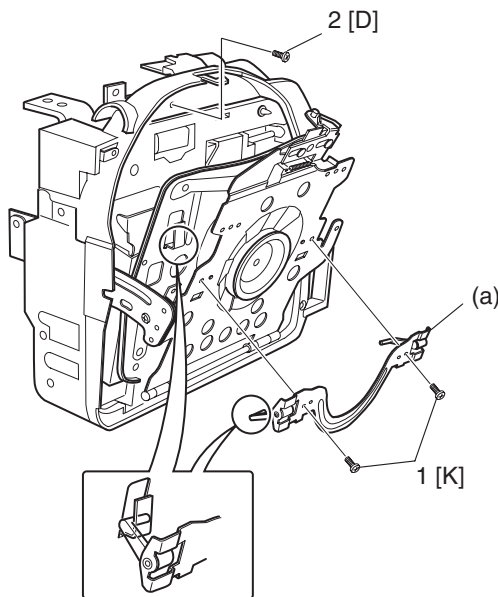

Fig. 5-3-16 Link Bracket, Drive Block, and R Case
(14) Link Bracket, Drive Block, and R Case (Figs. 5-3-16, 5-3-17, 5-3-18)
◆ Link Bracket (a) (Fig. 5-3-16)
◆ Drive Block (b) and R Case (c) (Figs. 5-3-16, 5-3-17, 5-3-18)